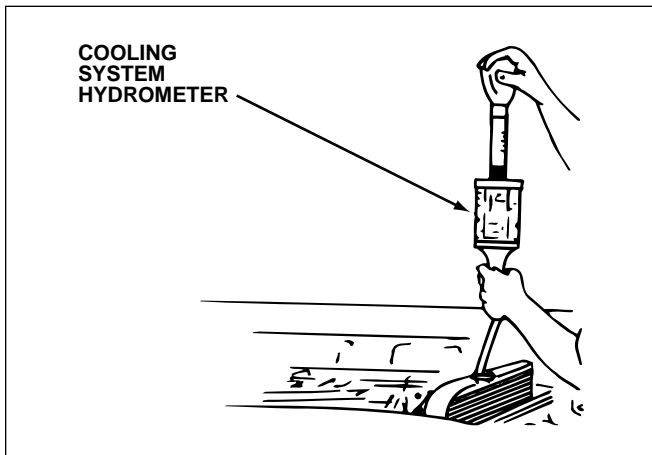

Fig. 4-12. A hydrometer checks the concentration and effectiveness of the coolant in the system.
1. Hold the hydrometer straight and draw enough coolant to raise the float, figure 4-12. The float should not touch the sides of the hydrometer